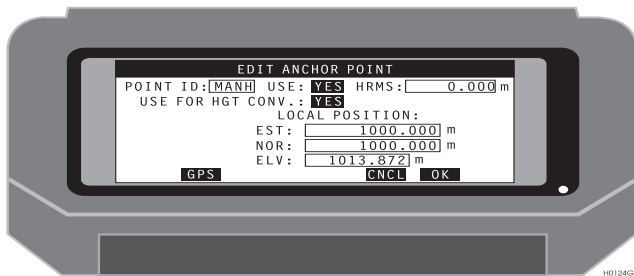

Figure 2.42. Edit Anchor Point (Local) Screen
7. To edit a point in the current list of local coordinates, use the Anchor Point screen (local) (Figure 2.42).